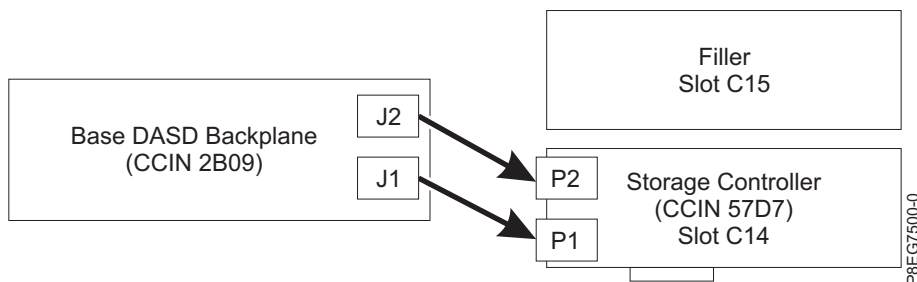

Figure 16. Reconnecting the SAS cable in a base-storage configuration
- If you have one PCIe3 x8 SAS RAID internal adapter (CCIN 57D7) in slot P1-C14 (base storage feature), a SAS cable connects the lower disk drive backplane connector (J1) to the P1 connector on the adapter. A second SAS cable connects the upper disk drive backplane connector (J2) to the P2 connector on the same adapter. See Figure 16.